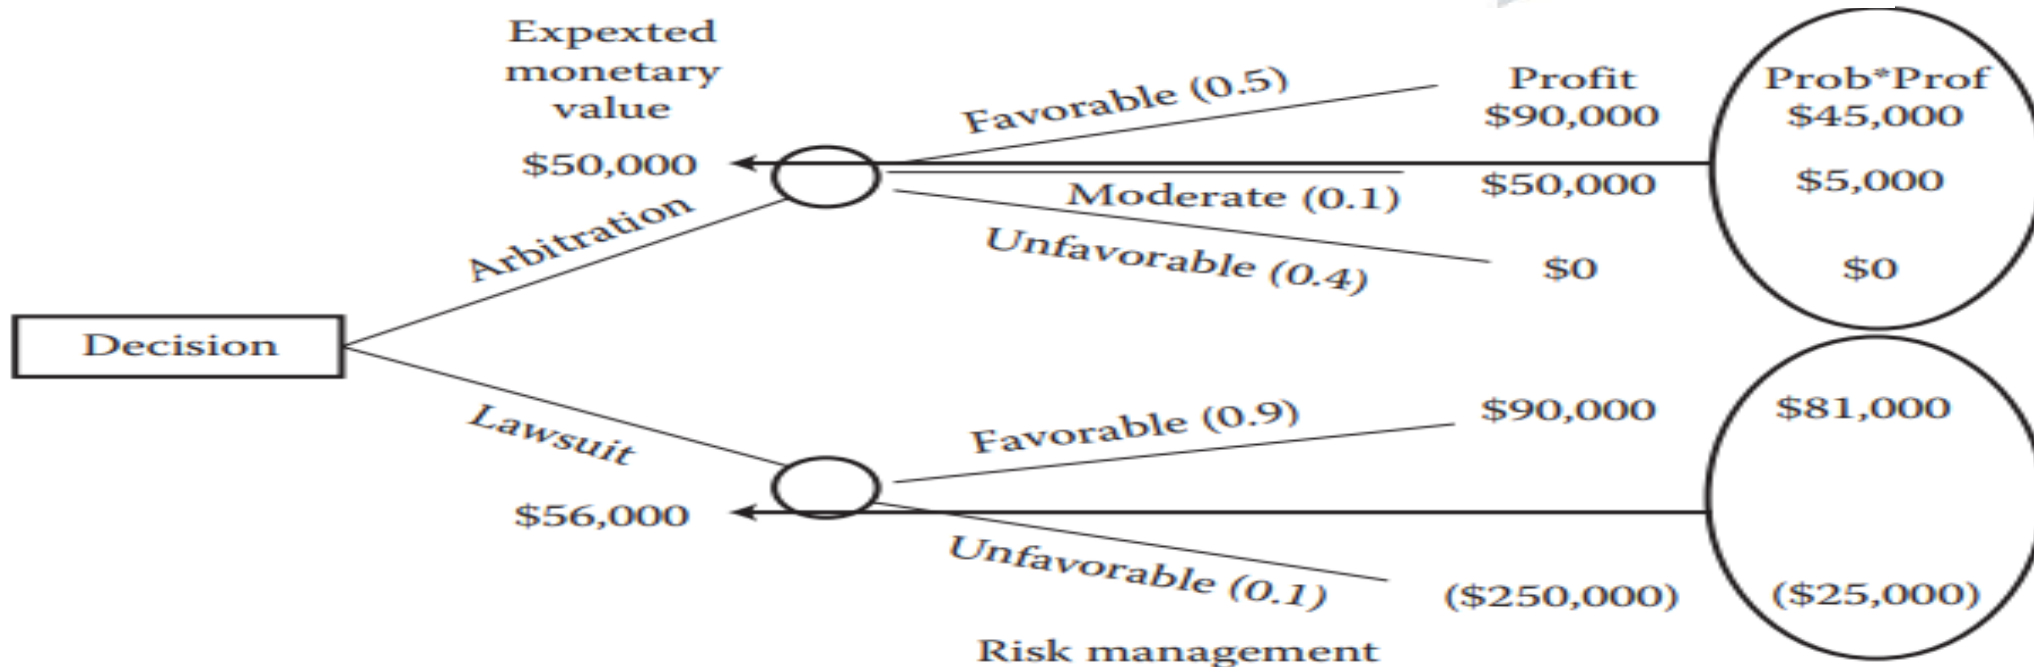

Figure 22.2 Sample decision tree analysis. (From Richardson, G.L. 2010. *Project Management Theory and Practice*. New York: CRC Press, Taylor & Francis Group.)
- ❖ Solving the decision tree provides the expected monetary value for each alternative when all the rewards and subsequent decisions are quantified, such as the example decision tree in Figure 22.2.